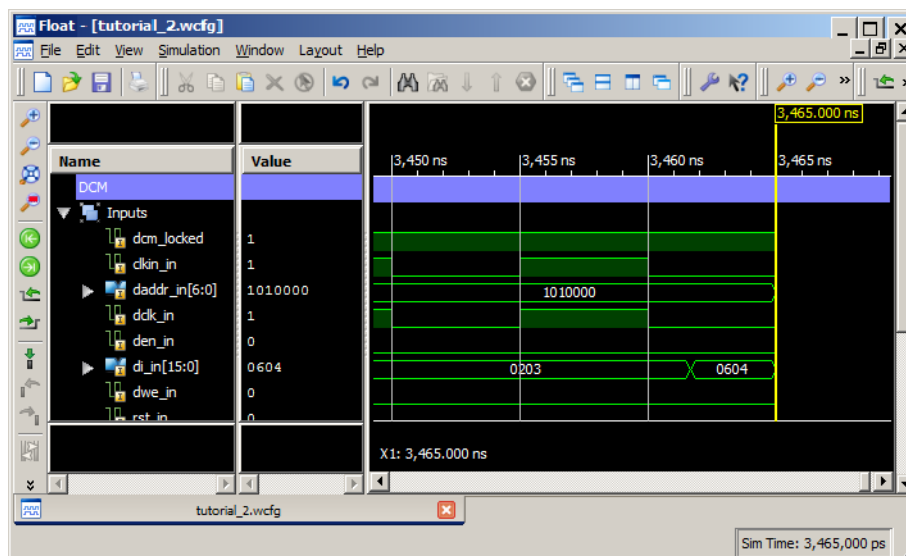

Figure 3-34: Wave Window: Analyzing Output of DCM DI\_IN Input Bus
3. Right-click anywhere on the executable line and select **Toggle Breakpoint** to add the breakpoint (see Figure 3-34, page 42.)
4. Continue stepping through the simulation until the `di_in` bus signal is updated with a new value (you might need to zoom in to observe the change). At around 3,465 ns, the bus should be updated from 0203h to 0604h (see Figure 3-34, page 42).